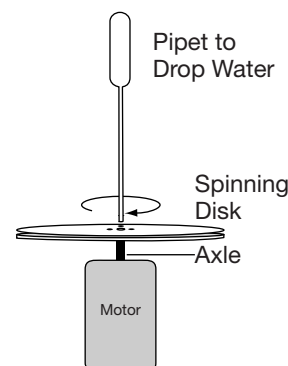

Figure 2
3. Place the plastic rotating disk (with a center hole) onto the exposed motor axle of the chromatography centrifuge. Set the filter paper on the disk. The axle should penetrate the center hole of the filter paper to secure the paper to the rotating disk (see Figure 2.) *Note:* This avoids the use of tape to hold the filter paper, although that is an option if necessary.